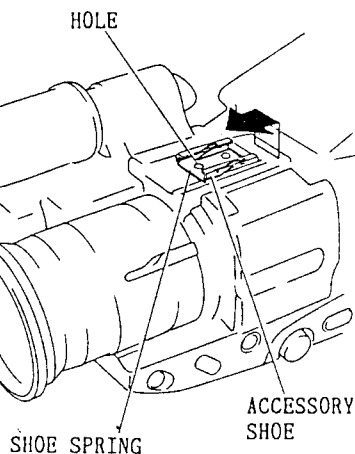

Fig. 2-3
1. Insert a flat-bladed screwdriver, etc. into the hole in the accessory shoe spring and remove the shoe spring in the direction of the arrow. (See Fig. 2-3)
3. Remove the accessory shoe. (See Figs. 2-3, 2-4)